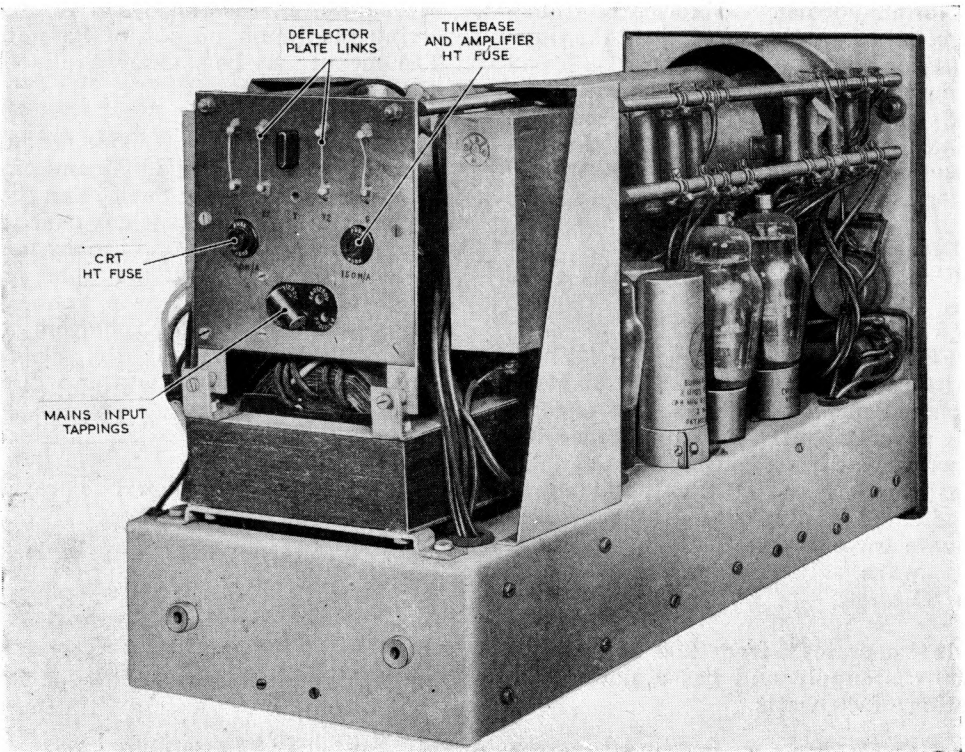

Fig. 19. Oscilloscope Type 10 : rear view of chassis
(1) The mains voltage selector link (*fig. 19*) should be placed between socket C and the 220-230 volts socket.
(2) *Fig. 19* also shows the normal position of the Y1 link.
(3) In position 1 of the timebase switch the XI terminal is connected directly to the